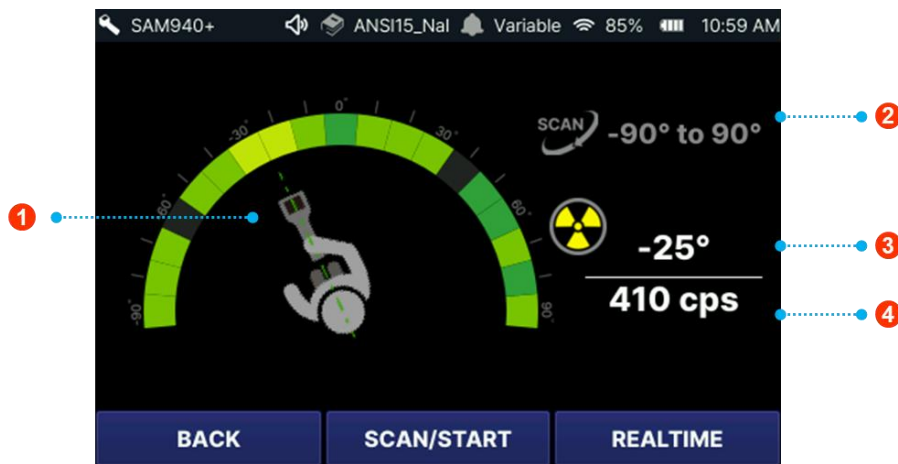

Figure 5.8.3. Scan result
Immediately upon completion of scan, the direction of isotope ① is displayed as an arrow as shown in figure 5.8.3. In addition to graphical indicator of the location, the range scan is shown in ②. The isotope location result is located at angle ③ and count rate ④.